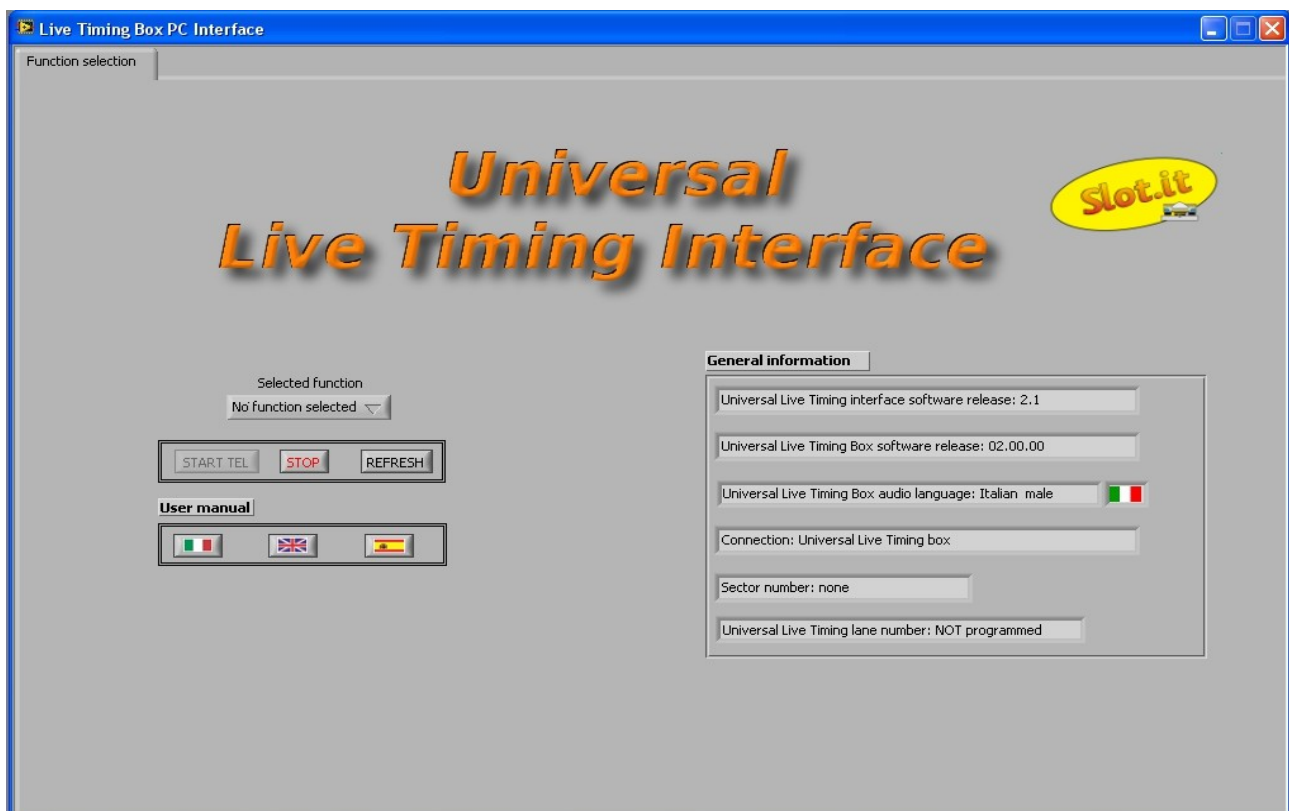

Figure 3: starting windows *Live Timing Box PC Interface* with one connected *Universal Live Timing Box*.
In case of connected *Universal Live Timing Box* (figure 3), some information appears on the right side of the page: this is the first data exchange between the *Live Timing Box PC Interface* application and the *Universal Live Timing Box*. These are:
On the left side of the same page (figure 3) is a drop-down menu, "*Selected function*", in which all the functions that can be carried out are listed. Under the drop-down menu there are three buttons to open the *Live Timing Box PC Interface* manual (see paragraph 2.2.1.7).
- *STOP POSTPROCESSING*: returns the *Live Timing Box PC Interface* application to the starting page, "Function selection" (figure 3).